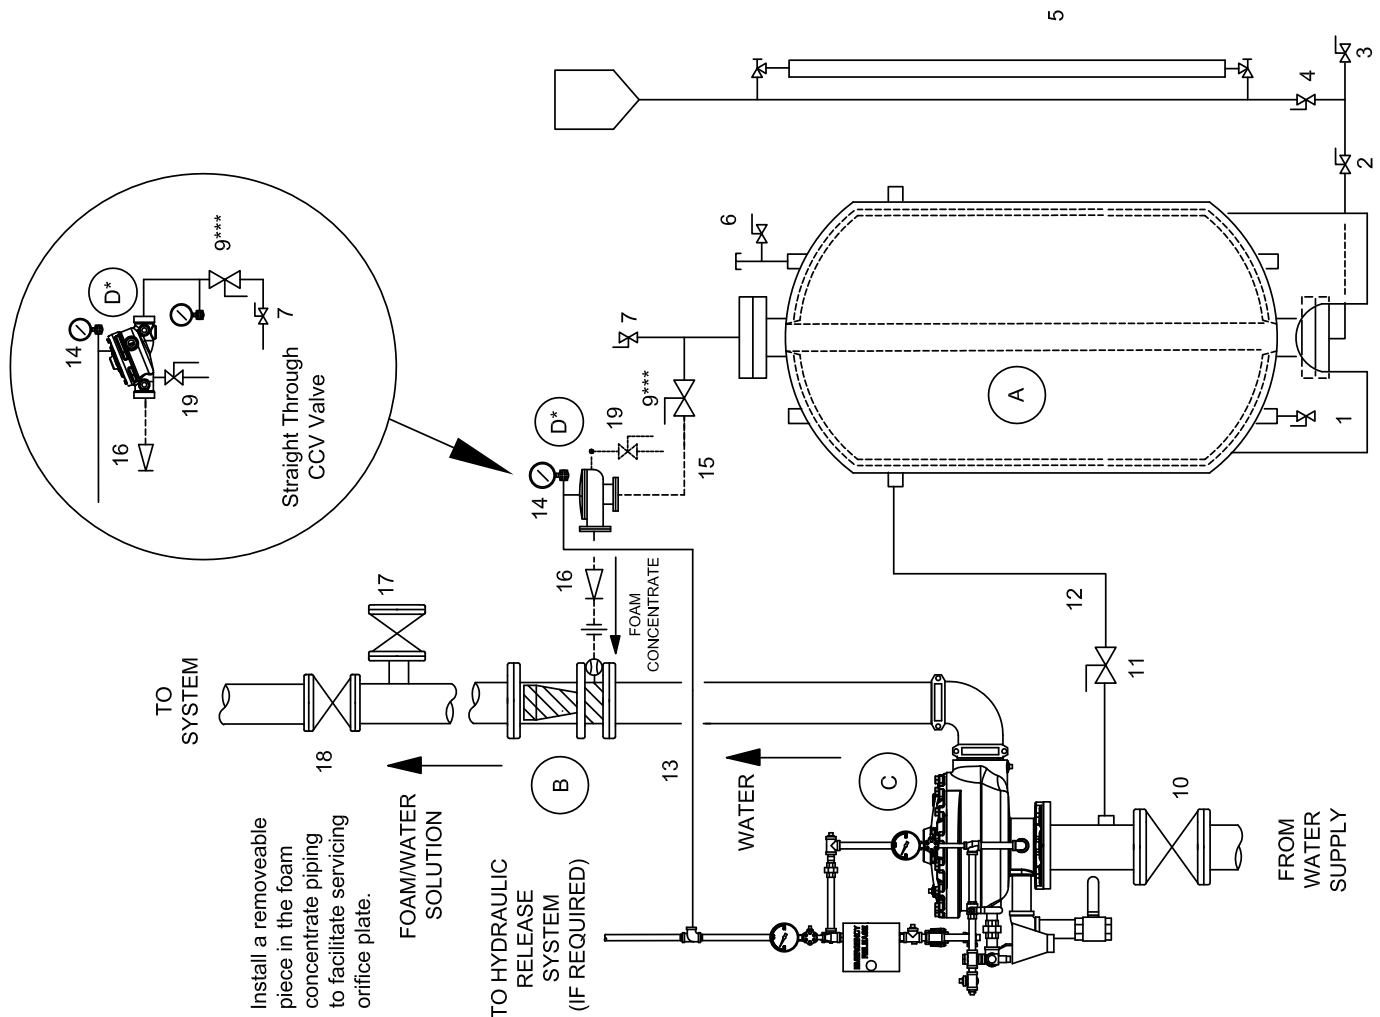

Figure 1
- A. Provide a minimum of 5 pipe diameters of straight pipe on the inlet and outlet of the concentrate controller (B) to minimize turbulence inside the concentrate controller.
- B. The combined total equivalent length of pipe, fittings and valves in both the water supply inlet piping (12) and the foam concentrate discharge piping (15), must not exceed 50 equivalent feet (15.2 meters). This will allow both pipes to be the same size as the foam liquid inlet to the concentrate controller. Should the total equivalent length exceed 50 feet (15.2 meters), then refer to the "Proportioning Equipment" section of this data book for the method of calculating these pipe sizes.
- C. The Halar® coated concentrate control deluge valve (D) and swing check valve (16) must be connected adjacent to the concentrate controller using pipe nipples as short as possible.
- D. Figures 1 - 3 are general schematics of the required piping arrangement. Refer to the appropriate technical data page for specific information regarding the valve, tank, and related trim and devices.